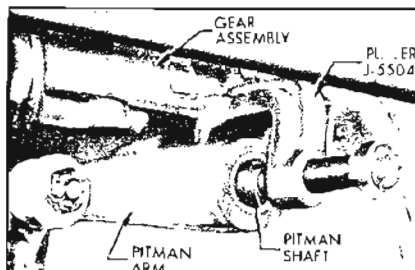

Figure 8-30—Removing Pitman Arm from Pitman Shaft
1. Remove pitman nut and disconnect pitman arm from pitman shaft using Puller J-5504. See Figure 8-30.
pitman arm using Puller J-5504. See Figure 8-30.
1. Remove pitman arm from pitman shaft. See Figure 8-30.